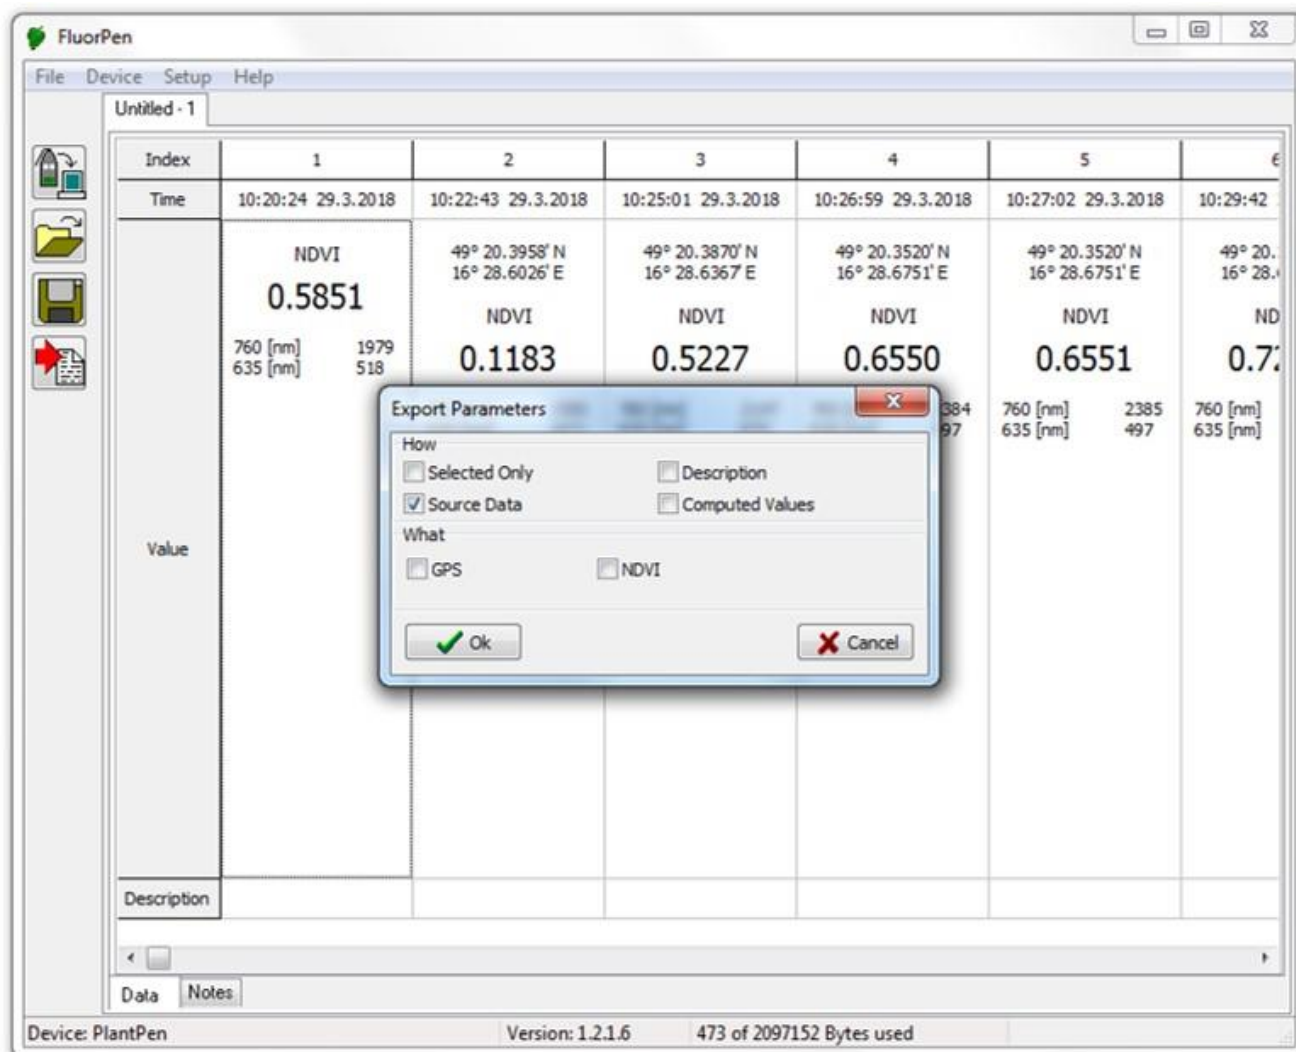

Fig. 14 Export data.
4. For **export** press **File > Export** or **Export** icon, select what you want to export (NDVI or PRI) -Fig. 14.